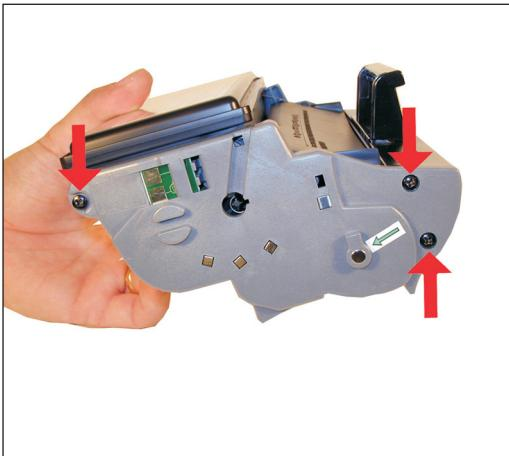

Figure 2
- 1) On the left side of the cartridge (Chip Side) remove the 3 screws. See Figure 2